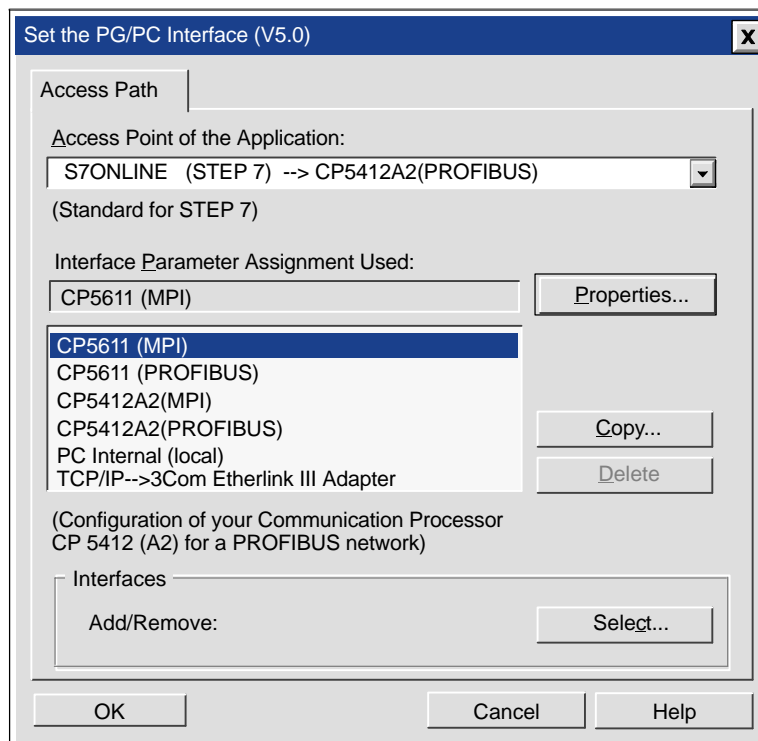

Figure 3-3 Setting the PG/PC Interface for the Computer with STEP 7 Installed
2. As shown in Figure 3-3, select the following entry from the drop-down list for the “Access Point of the Application” field: